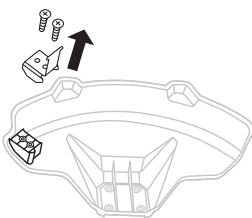

Fig. 1B
2. Remove both screws on the cut-off blade with a hex wrench. (Fig. 1B)
3. Rotate the cut-off blade 180°. (Fig. 1B)